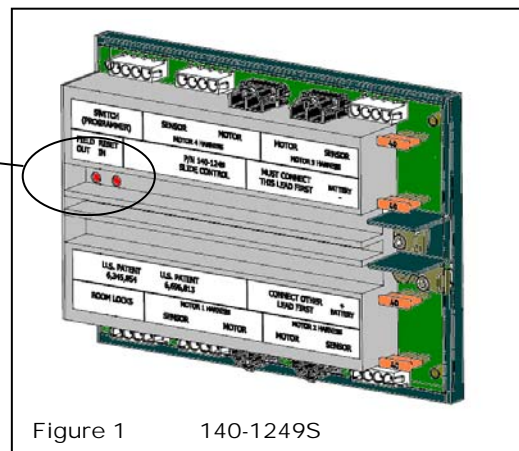
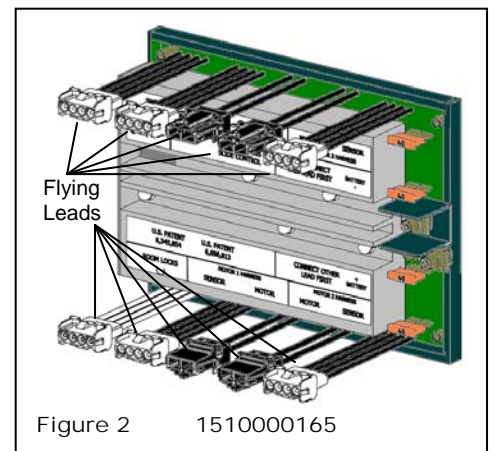

Figure 1
Figure 2
- The 1510000165 control has "flying" electrical connection leads (see **FIGURE 2**) while the 140-1249S has electrical connectors on the control board (see **FIGURE 1**).
- 140-1249S has visible red colored FIELD RESET buttons that could be pressed with your finger tips (see **FIGURE 1**). On the 1510000165 the FIELD RESET buttons are now labeled O and I. They are recessed into the control and they must be pressed with something small such as the end of a paper clip.